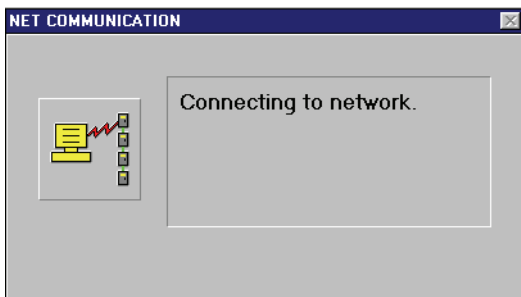

Figure 2-45: Connecting to the Network
3. Once all parameters are collected, the host computer connects to the access control network (if it isn’t already connected). The Net Communication window appears if the access control network connection needs to be made (see Figure 2-45).